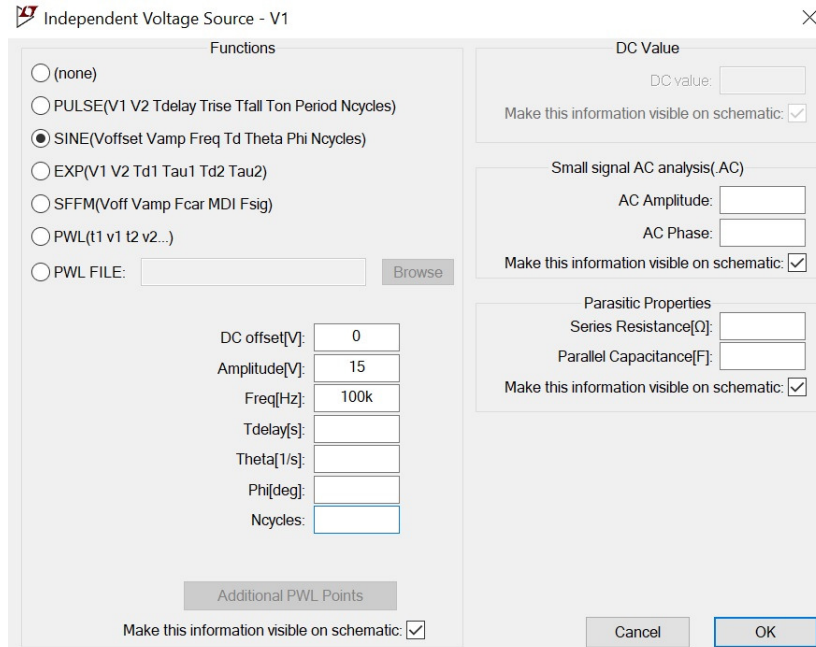

Figure 9: Setting Up a Sine Wave
- 67) Select **SINE**, which allows for the specification of a sine wave, and fill out the parameters as displayed in Figure 9